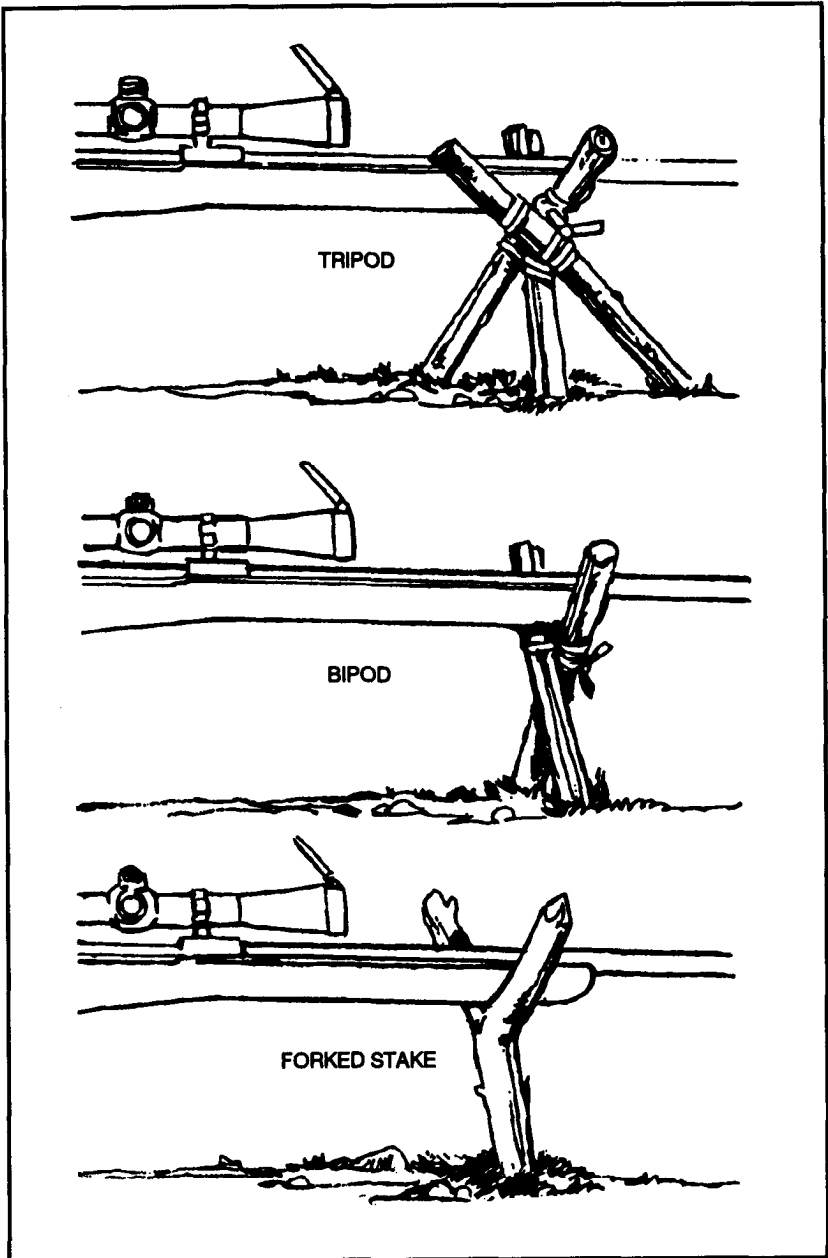

Figure 3-12. Field-expedient tripod, bipod, and forked stake.
(4) **Tripod.** The sniper can build a field-expedient tripod (Figure 3-12) by tying together three 12-inch long sticks (one thicker than the others) with 550 cord or the equivalent. When tying the sticks, he wraps the cord at the center point and leaves enough slack to fold the legs out into a triangular base. Then, he places the fore-end of the weapon between the three uprights.
(5) **Bipod.** The sniper can build a field-expedient bipod (Figure 3-12) by tying together two 12-inch sticks, thick enough to support the weight of the weapon. Using 550 cord or the equivalent, he ties the sticks at the center point, leaving enough slack to fold them out in a scissor-like manner. He then places the weapon between the two uprights. The bipod is not as stable as other field-expedient items, and it should be used only in the absence of other techniques.
(6) **Forked stake.** The tactical situation determines the use of the forked stake. Unless the sniper can drive a forked stake into the ground, this is the least desirable of the techniques; that is, he must use his nonfiring hand to hold the stake in an upright position (Figure 3-12). Delivering long-range precision fire is a near-impossibility due to the unsteadiness of the position.